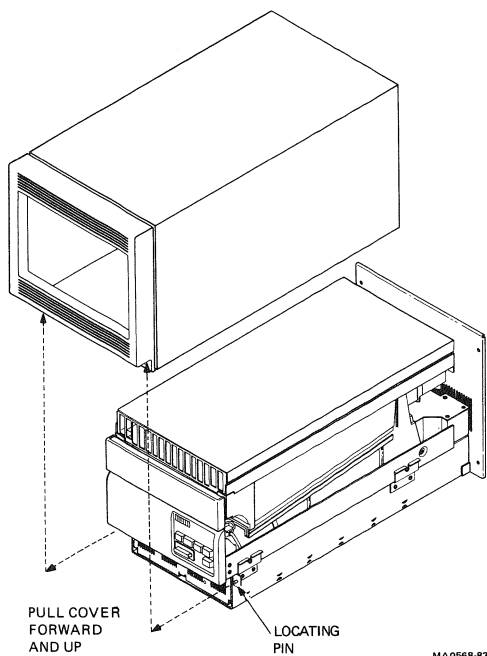

Figure 4-3 Cover/Bezel Assembly Locating Pins
3. Grasp cover and slide it forward. This step disengages two front locating pins. Then lift cover straight up and off drive (Figure 4-3).
3. Slide cover toward rear while engaging two front locating pins (Figure 4-3). Make sure no cables get caught between cover and rear bezel.